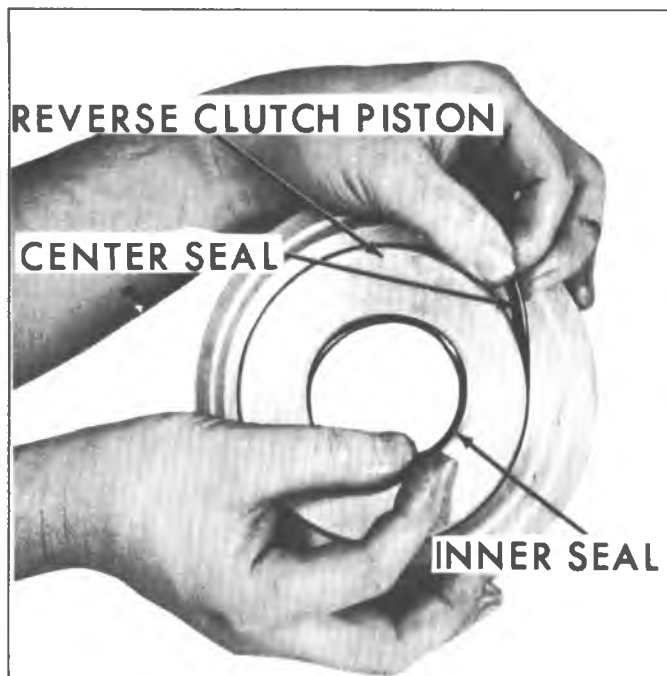

Fig. 49M--Removing Low and Reverse Clutch Piston Center and Inner Seal
25. Remove low and reverse clutch piston center and inner seal (fig. 49M).